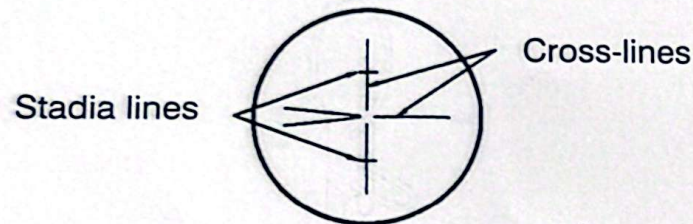

Fig.5.6
- 1) Sight the staff, and count the number of centimeters, ℓ , between the two stadia lines. (Fig.5.6)